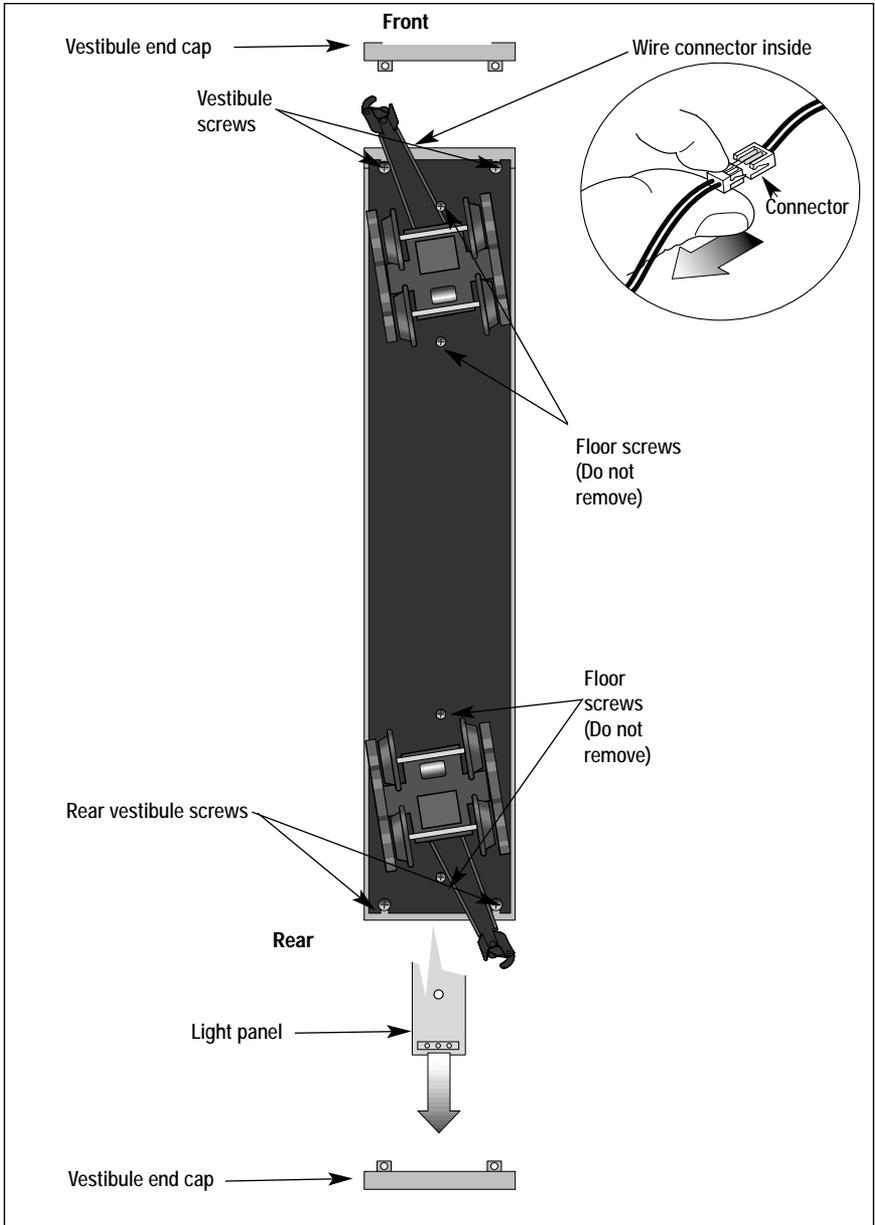

Figure 8. Lamp replacement
1. Loosen the four front and rear vestibule screws from the bottom of the frame, then pull the end caps off the car body. Refer to Figure 8 on page 15 for the locations of the screws and the vestibule.